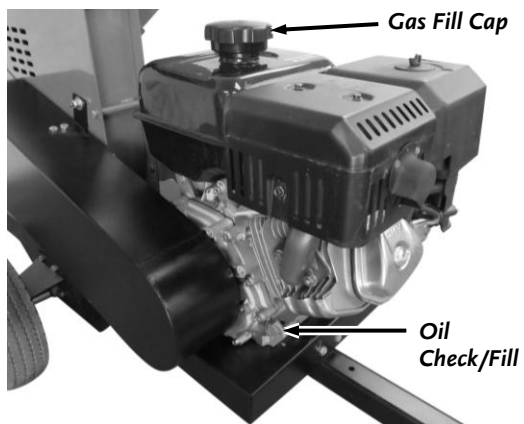

Figure 13
- Place the machine on a level surface and remove the Dipstick (clean the end of the Dipstick with a rag) (**Figure 13**).
- Remove the Gas Fill Cap and fill the Gas Tank with fresh, unleaded gas (with a minimum of 85 Octane) to approximately 1" to 1-1/2" below the top of the fill neck to allow for fuel expansion (**Figure 13**). Be careful not to overfill and reinstall the Gas Fill Cap before starting the engine. See your Engine Owner's Manual for more detailed information.